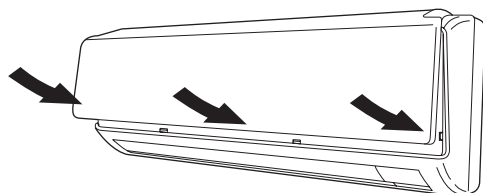

Fig. 12b
- (b) Press the bottom right and left corners and center of the air intake grille to attach it to the indoor unit. (Fig. 12b)